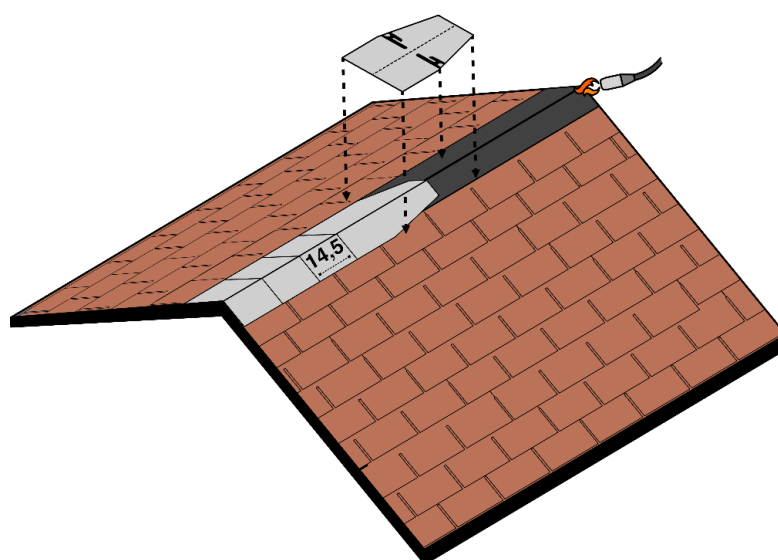

Fig. 19 – Ridge elements installation by torch
- Apply a band of bituminous membrane Safety EPP on the ridge by torch – Fig. 19.
- Proceed with the installation of the other ridge elements in sequence, leaving an exposed part of 14,5cm between one element and the next, see Fig. 19.